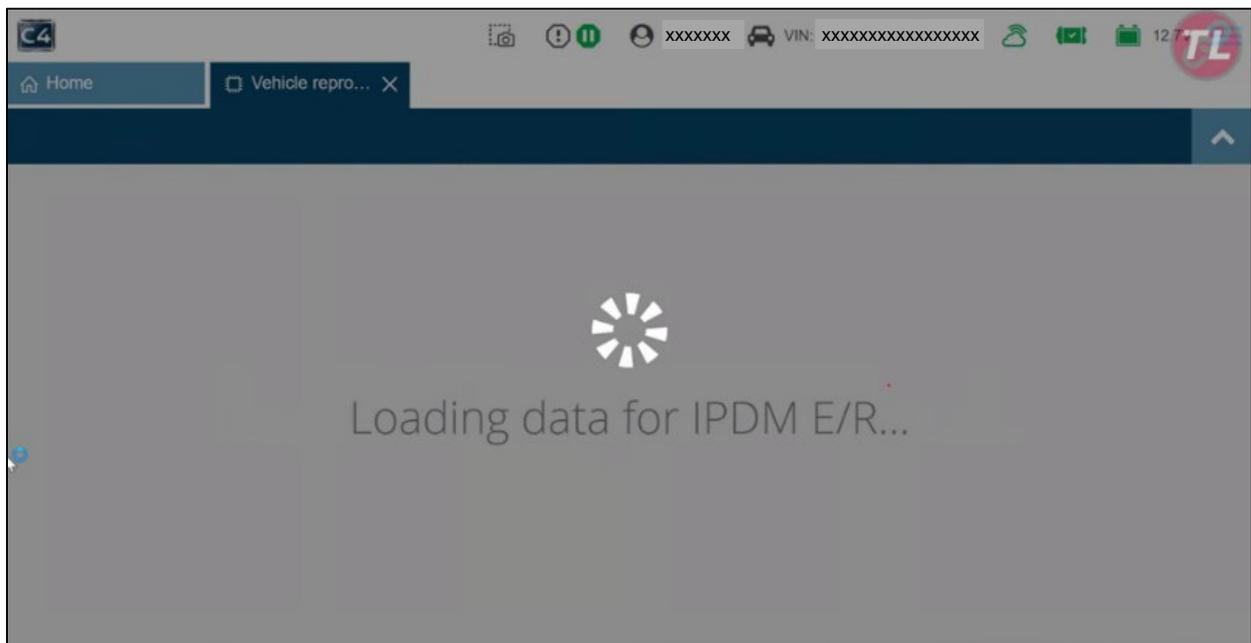

Figure 10
16. Allow CONSULT 4 to check for reprograms (Figure 10).